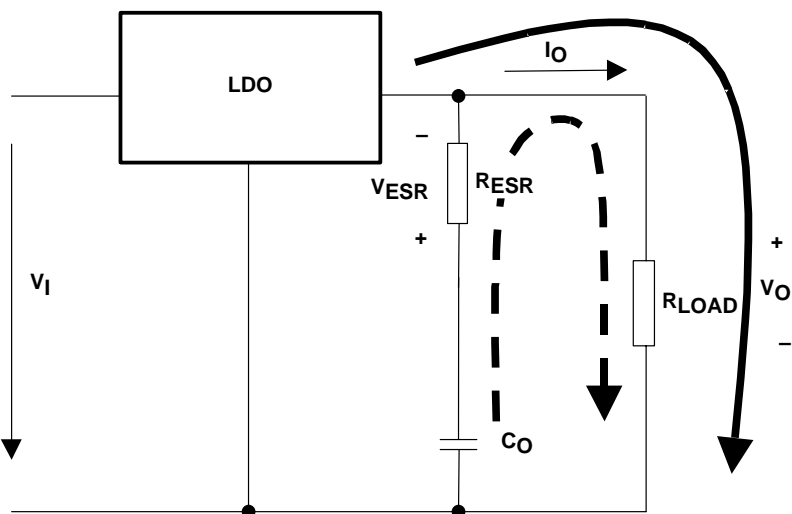
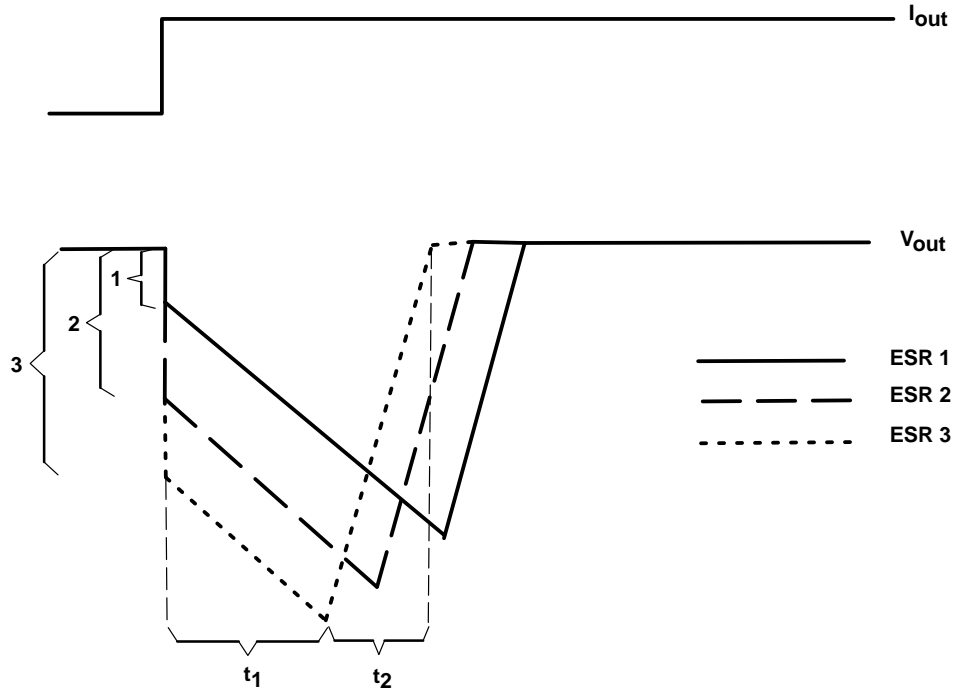

Figure 22. LDO Output Stage With Parasitic Resistances ESR
Figure 23. Correlation of Different ESRs and Their Influence to the Regulation of V_{out} at a Load Step From Low-to-High Output Current
Figure 22 shows the output capacitor and its parasitic impedances in a typical LDO output stage.
- The LDO is not able to supply the sudden current need due to its response time (t_1 in Figure 23). Therefore, capacitor C_{out} provides the current for the new load condition (dashed arrow). C_{out} now acts like a battery with an internal resistance, ESR. Depending on the current demand at the output, a voltage drop will occur at R_{ESR} . This voltage is shown as V_{ESR} in Figure 22.
- When C_{out} is conducting current to the load, initial voltage at the load will be $V_{out} = V_{C_{out}} - V_{ESR}$. Due to the discharge of C_{out} , the output voltage V_{out} will drop continuously until the response time t_1 of the LDO is reached and the LDO will resume supplying the load. From this point, the output voltage starts rising again until it reaches the regulated voltage. This period is shown as t_2 in Figure 23.